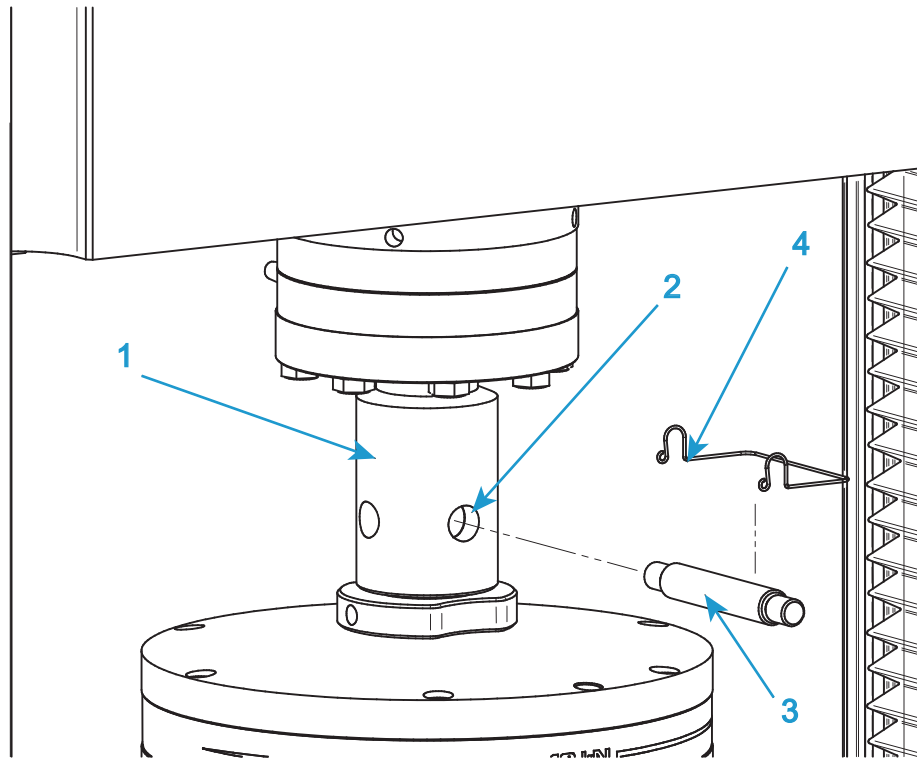

Figure 17. Typical grip installation
Refer to Figure 17 on page 83 when following this procedure.
1. For the upper grip, insert the adapter on the grip into the female clevis socket (1 in Figure 17) on the load cell adapter.
2. Align the clevis holes (2 in Figure 17) and insert the clevis pin (3 in Figure 17) through the holes.
3. Secure the clevis pin in position with the clevis pin clip (4 in Figure 17).